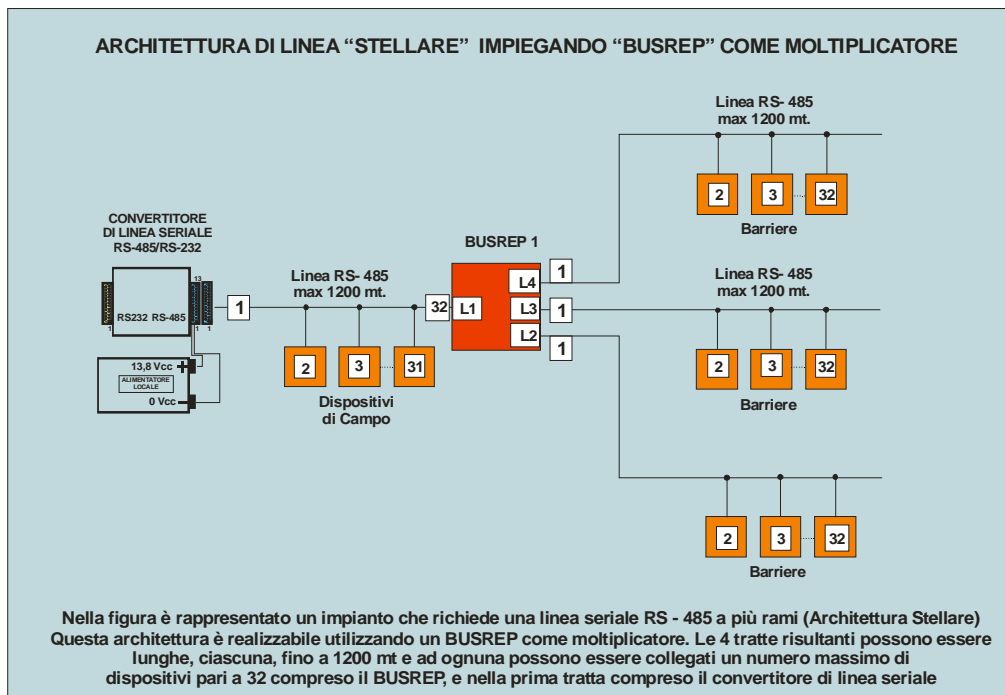

Figure 9
- full star, - mixed, with bus and star using repeaters/regenerators and multiple BUS-REP interfaces fig. 9. The total number of devices that can be connected to the line is 32 and for greater numbers it is necessary to use one or more RS485 line regenerators even if the total length is less than 1200m. For effective protection against induced interference on the line it is essential that the shield is connected throughout the length of the cable and that it is connected to GROUND at only one point, usually near the power supply. When there are many barriers connected to the serial line, the power for the RS485/RS232 converter must be provided by a local power supply, located close to the converter and, therefore, the PC.